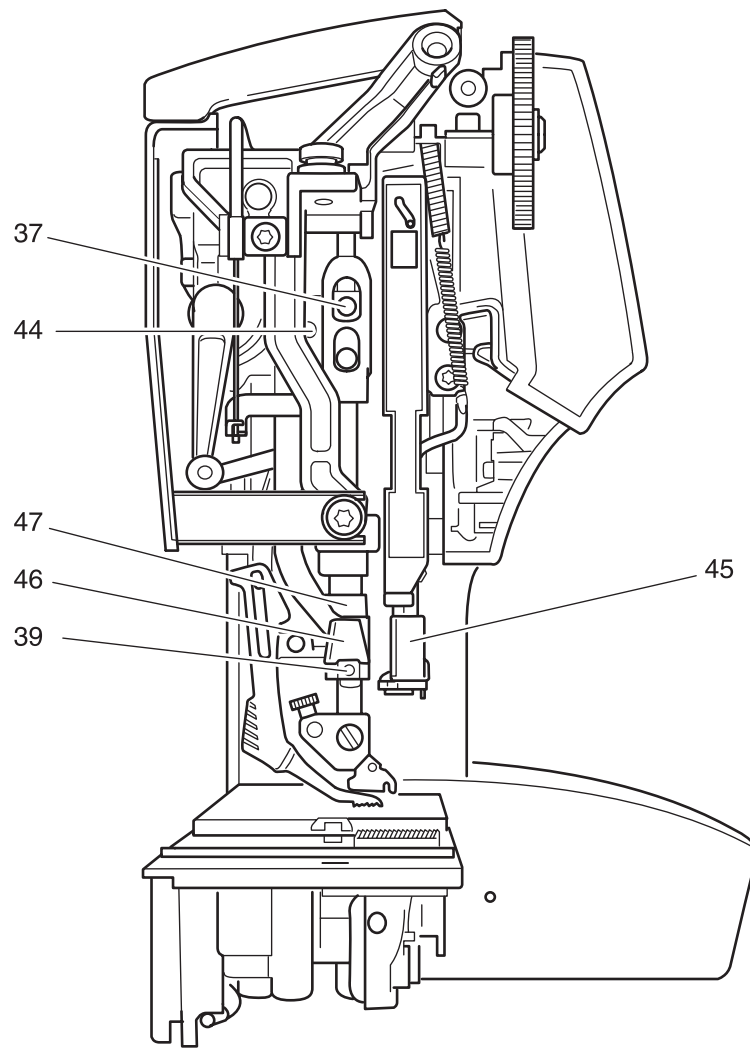

Fig. 20
- Loosen screws 37 and 39 (fig. 20).
- Tighten screw 39 (fig. 20).